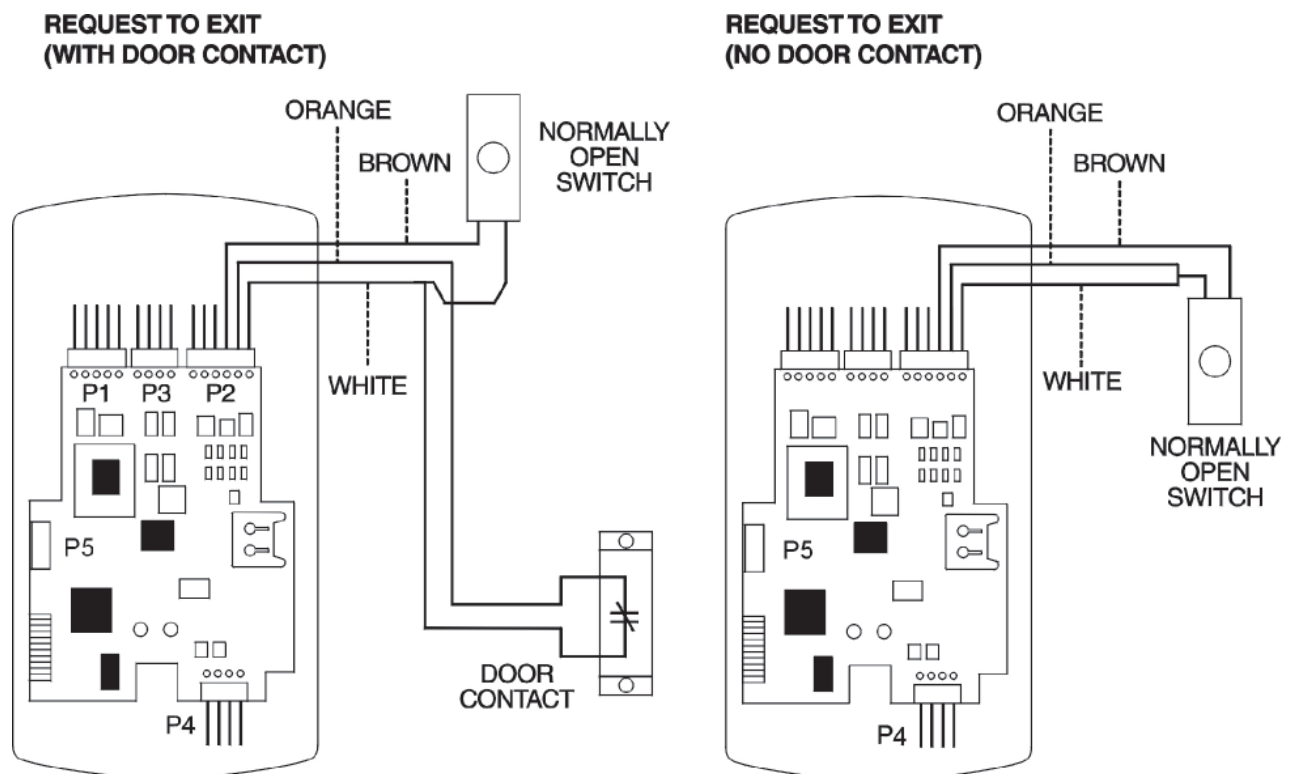

Figure 14: Wiring an External REX Switch
Other REX devices can be used to include a remote button placed at a receptionist's desk, a press-to-exit switch on the inside of a door, or a passive infrared detector, allowing free and convenient egress. The REX feature requires no programming; simply wire the unit as illustrated in Figure 14. To incorporate this feature, follow the steps below:
4. **If you do not wish to install the door contacts per Figure 14, twist the white wire and the orange wires together; this is mandatory. If this is not done, the REX input will not function.**